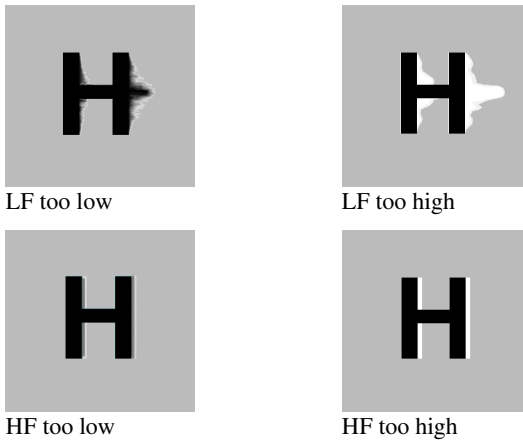

Figure 11 **Problems with smearing and sharpness requiring LF and HF adjustment**
8. Fine-tune the LF equalization to remove ‘black video smearing’ - black smears to the right of large objects such as window title bars (see Figure 11).
9. Fine-tune the HF equalization to sharpen the video image. Increase HF Equalization until a white edge to the right of small characters just starts to appear (see Figure 11).